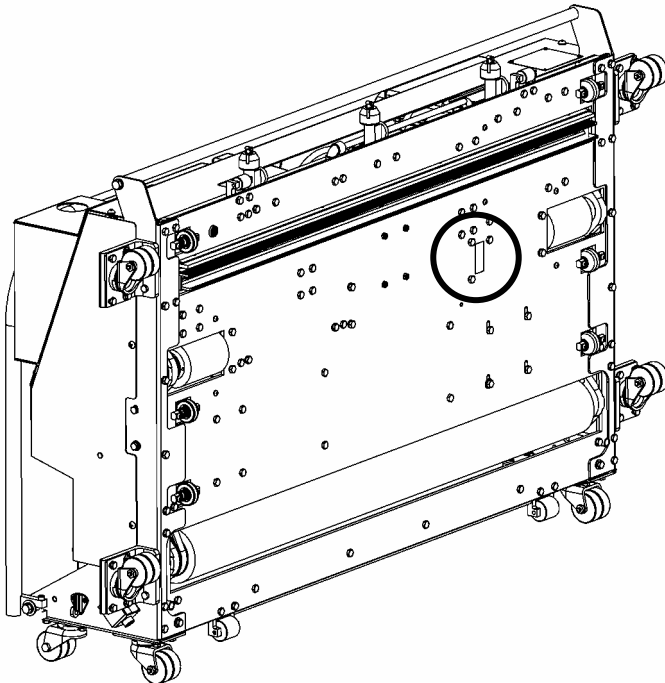

Figure 4-7
1. Locate the drive chain opening on the base plate, as shown in Figure 4-7.